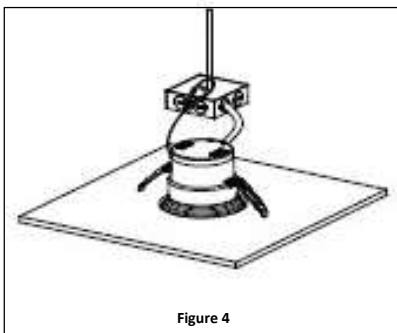

Figure 4
6. Let go of the clips and push the fixture up until it is flush with the ceiling. **See Figure 4.**